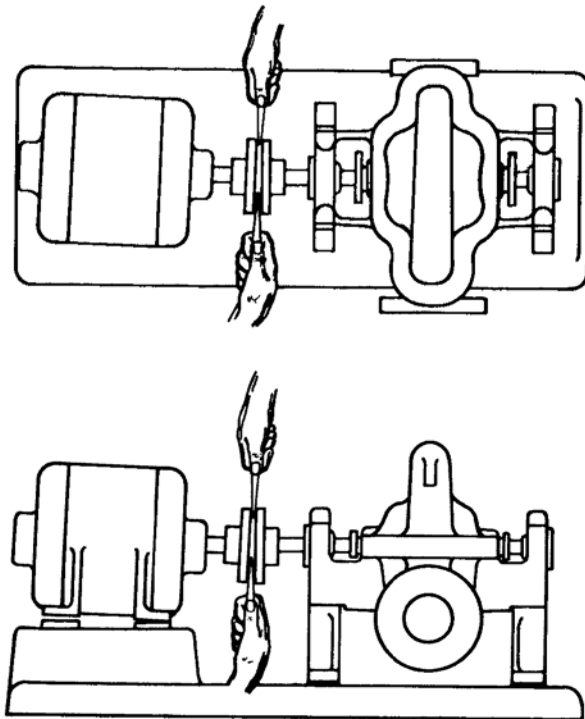

Figure 4:
5. Check angular misalignment - shaft axes concentric but not parallel - by inserting a taper gauge or feeler at four points on the circumference of coupling halves at 90° intervals. See Figure 4: on page 13. The unit will be in angular alignment when the measurements show the coupling faces are the same distance apart at all points. The "gap" between the coupling halves should be checked at this time. This depends on the type of coupling used and this information will be found in the instructions for the specific make of coupling furnished. Adjust angular alignment and "gap" by loosening the driver hold-down bolts and shifting or shimming driver as required. Tighten driver hold-down bolts after angular alignment and correct "gap" are secured.